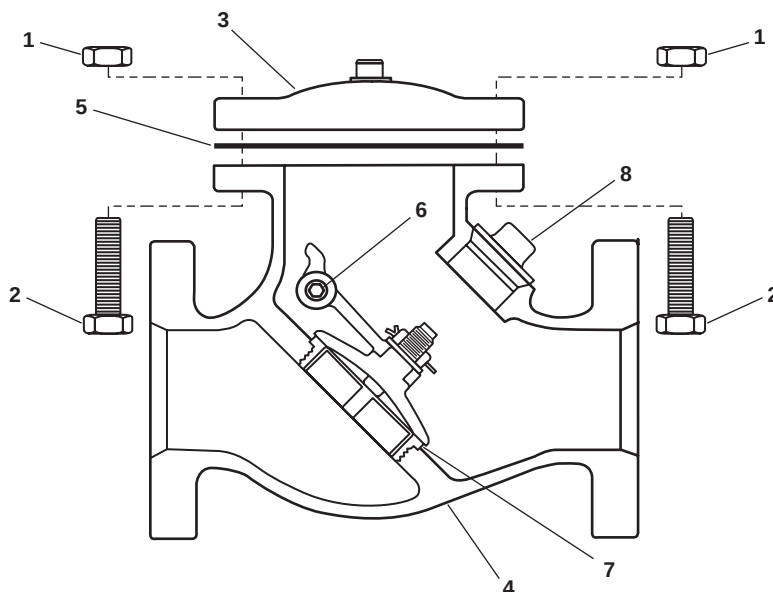

Figure 3. Flanged Check Valve
1. Remove the nuts (figure 3, item 1) and bolts (figure 3, item 2), and remove the cover (figure 3, item 3) from the valve body (figure 3, item 4).
2. Remove the gasket (figure 3, item 5) from the cover (figure 3, item 3). Discard the gasket.
3. Remove the valve hinge pin (figure 3, item 6) and valve seat (figure 3, item 7). Discard the valve seat.
4. Remove the plug (figure 3, item 8) from the valve body (figure 3, item 4).
2. Clean the parts of the valve (figure 3, item 1) using clean wiping rags and water.
3. Install a new valve seat (figure 3, item 7) and secure it inside the valve body (figure 3, item 4) with the valve hinge pin (figure 3, item 6).
4. Install a new gasket (figure 3, item 5) on the cover (figure 3, item 3) and secure it to the valve body (figure 3, item 4) with the nuts (figure 3, item 1) and bolts (figure 3, item 2).
5. Install the plug (figure 3, item 8) in the valve body (figure 3, item 4).